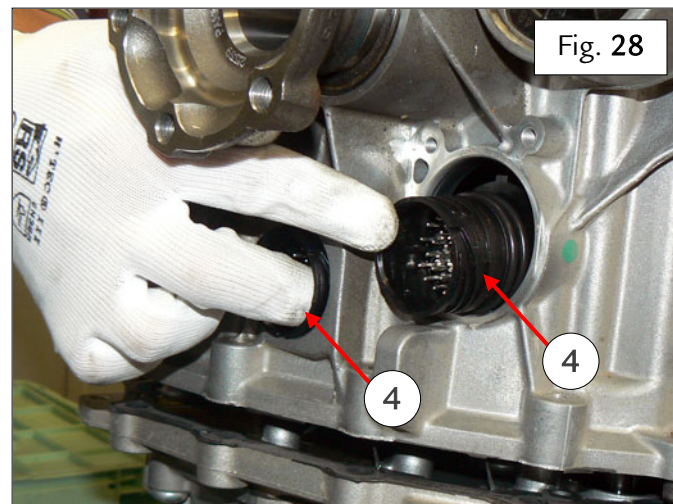

Fig. 28
- Pull out the differential housing by a few centimeters and push the connections (4) inside through the hole – Fig. 28.